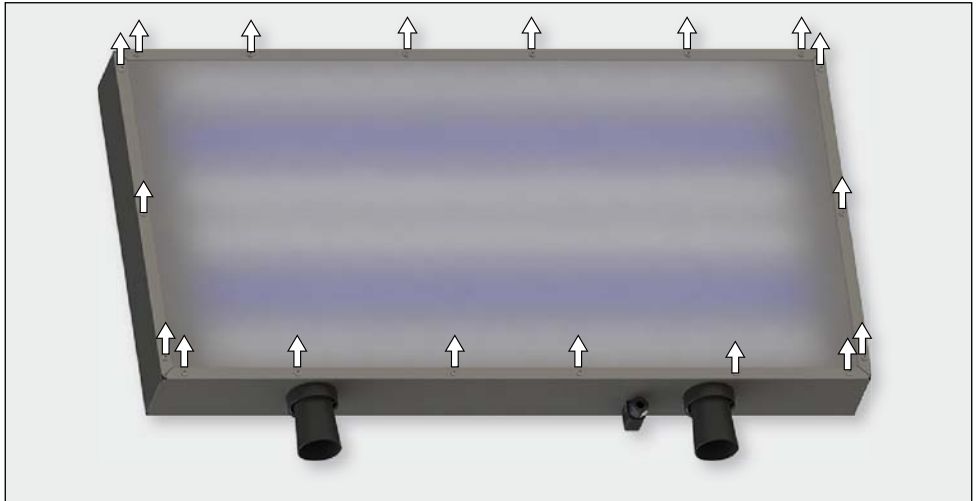

Fig. 34 Lay the illumination box on its back and loosen the screws
4. Turn the illumination box around and place it carefully on a smooth surface, so that the fluorescent tubes are on top (Fig. 34). Undo the four screws on the side.